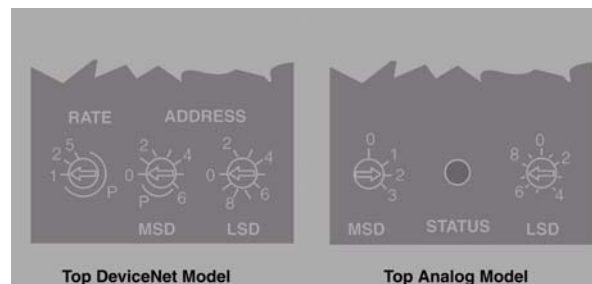

Figure 18: Typical Rate and Address Switches Location
8. Set each IN2 unit to a unique address (MACID) using only numbers between 1 and 32. (Program will not recognize MACID greater than 32) MACID are created by rotating the two address switches on the top of the IN2 case (see Figure 18) with a small flat-blade screwdriver. The switch marked MSD determines the most significant digit of the address, and the switch marked LSD determines the least significant digit. For example, rotating the MSD switch to position 2 and the LSD switch to position 7 sets address 27. Setting two units to the same MACID will cause communication conflicts and errors.